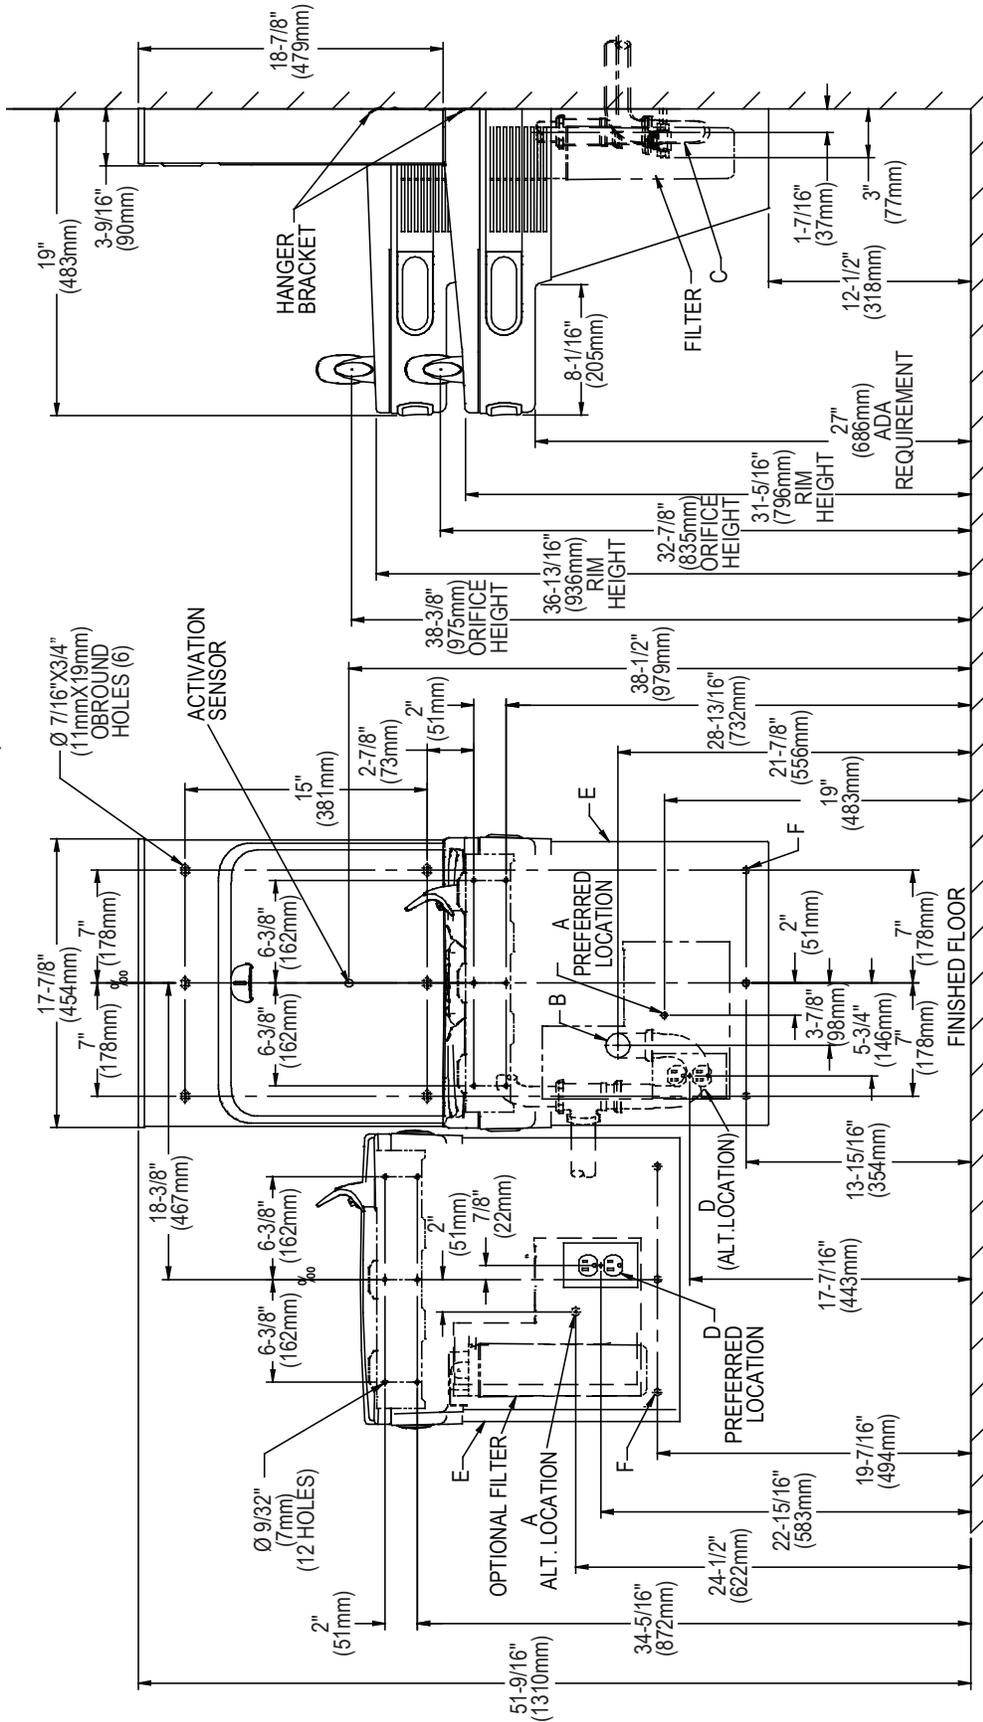

Fig. 2
- 1) Remove hanger brackets fastened to back of cooler by removing one (1) screw.
- 2) Mount the hanger brackets as shown in Figures 2, 3, 4 or 5.
**NOTE:** Hanger Bracket MUST be supported securely. Add fixture support carrier if wall will not provide adequate support. Anchor hanger securely to wall using all six (6) 1/4 in. dia. mounting holes.
- 3) Hang the cooler on the hanger bracket. Be certain the hanger bracket is engaged properly in the slots on the cooler back as shown in Figures 2, 3, 4 or 5.
- 4) Remove the four (4) screws holding the lower front panel at the bottom of cooler. Remove the front panel by pulling straight down and set aside.
- 7) Install bottle filler per page (11).